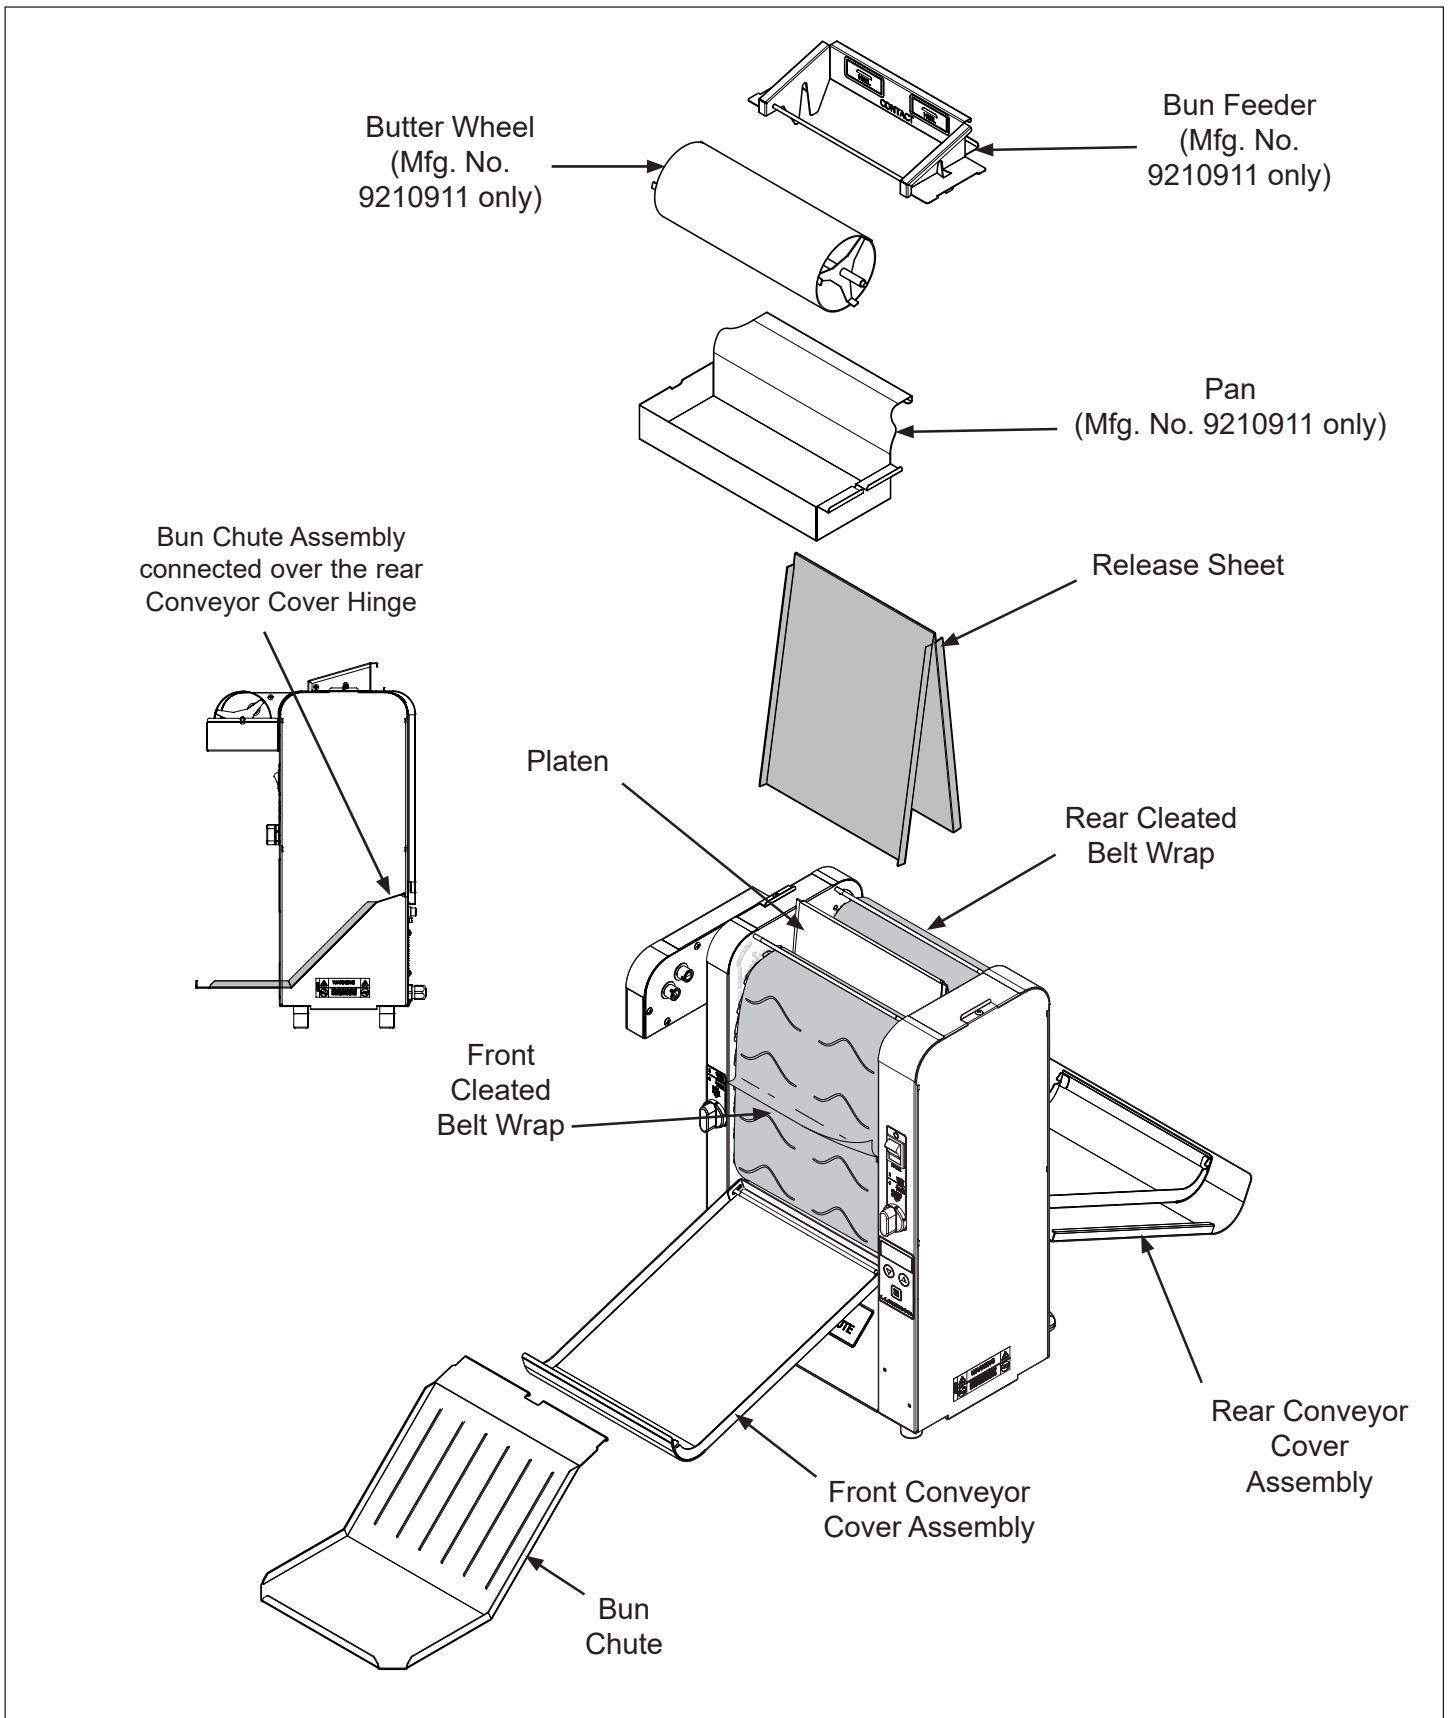

Figure 2. Components
Open the included large box. It should contain the following (See Figure 2):
Platen (Figure 2). Verify that it is properly in place before proceeding.
2. Install the Pan over the front edge of the Heat Shield and place the Butter Roller in Pan and engage into gear case (Figure 2).
IMPORTANT: Make sure Heat Shield assembly is activating the Conveyor Interlock Switch (Figure 2). The conveyors will not rotate unless the Heat Shield is in place and Conveyor Interlock Switch is activated.
2. Put on heat-resistant gloves. Remove the Bun Feeder, Release Sheet, and Bun Chute and set aside (Figure 2).
2. Remove the Bun Feeder and Bun Chute (Figure 2). Set the Bun Thickness Compression Knobs to 6 & 6.